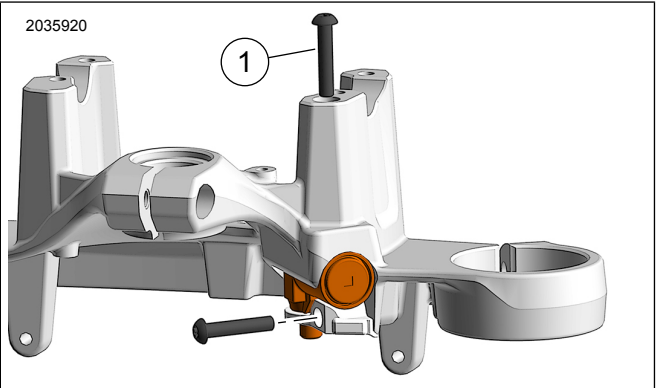

Figure 1.
- a. See Figure 1. Use **new** screw (Part No. 10200925) supplied in recall kit for installation of fork lock to **new** upper triple tree.